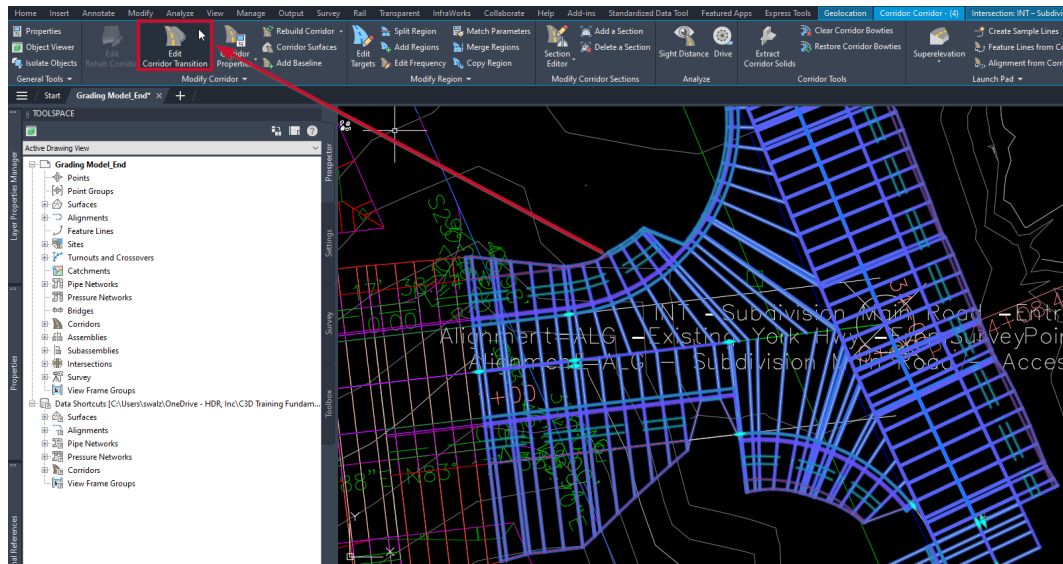

Figure 3.12 – Edit Corridor Transition
1. Select our **INT – Subdivision Main Road – Entrance** intersection model in model space to bring up the Corridor Contextual Ribbon and select the **Edit Corridor Transition** tool located in the **Modify Corridor** palette (refer to *Figure 3.12*).